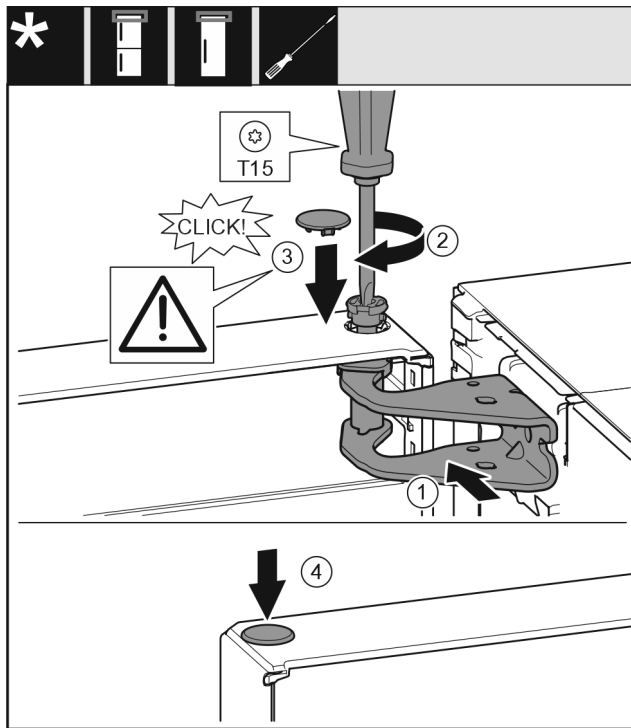

Fig. 18
- Align the top of the door with opening in the bearing bracket. Fig. 18 (1)
- Insert the bolt and tighten with a T15 screwdriver. Fig. 18 (2)
- Fit the protective cover to protect the door: Insert the protective cover and check that it lies flush on the door. If not, insert the bolt fully. Fig. 18 (3)
- Insert the plugs. Fig. 18 (4)